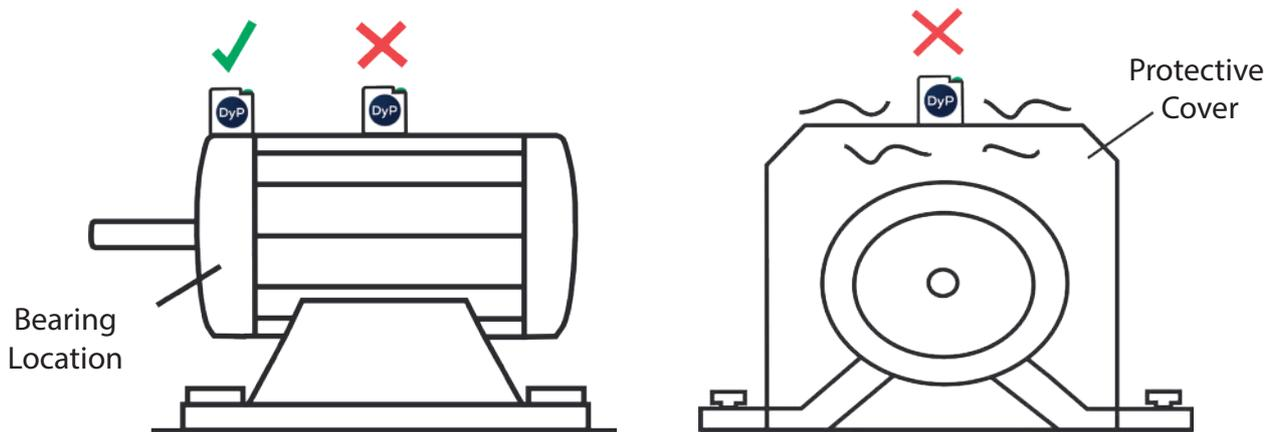

Figure 5 - Positioning on rigid parts of a machine
1) The DynaLogger should be installed on a rigid part of the machine avoiding localized resonance and other interferences (Figure 5);